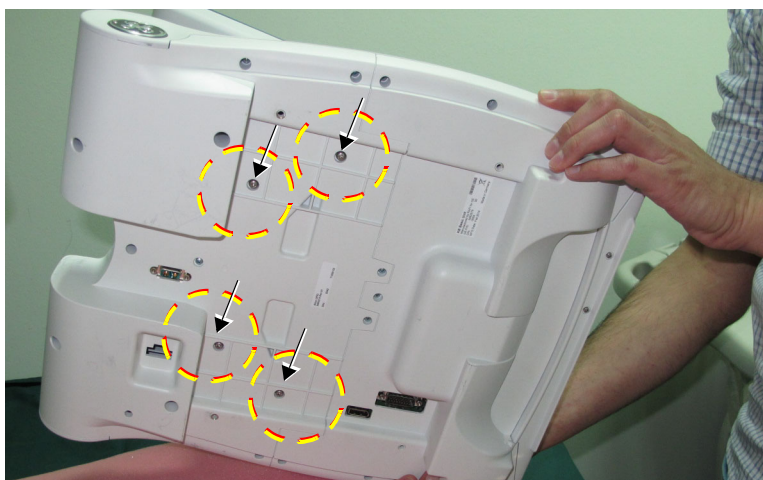

Figure 8-210 Four Screws Securing the Touch Screen Chassis
5.) From the bottom of the keyboard assembly, unscrew the four screws shown in Figure 8-210.